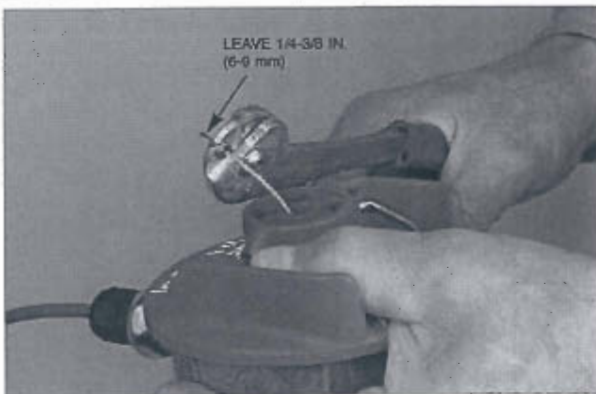

FIGURE 75
- Thread the wire rope through stop sleeve and leave approximately 1/4-3/8 in. extended past sleeve. Crimp the stop sleeve twice using Crimping tool, National Telephone Supply Co. Nicopress Sleeve Tool (Stock No. 51-C-887). Verify the stop sleeve is secure on the wire rope. See Figure 75.